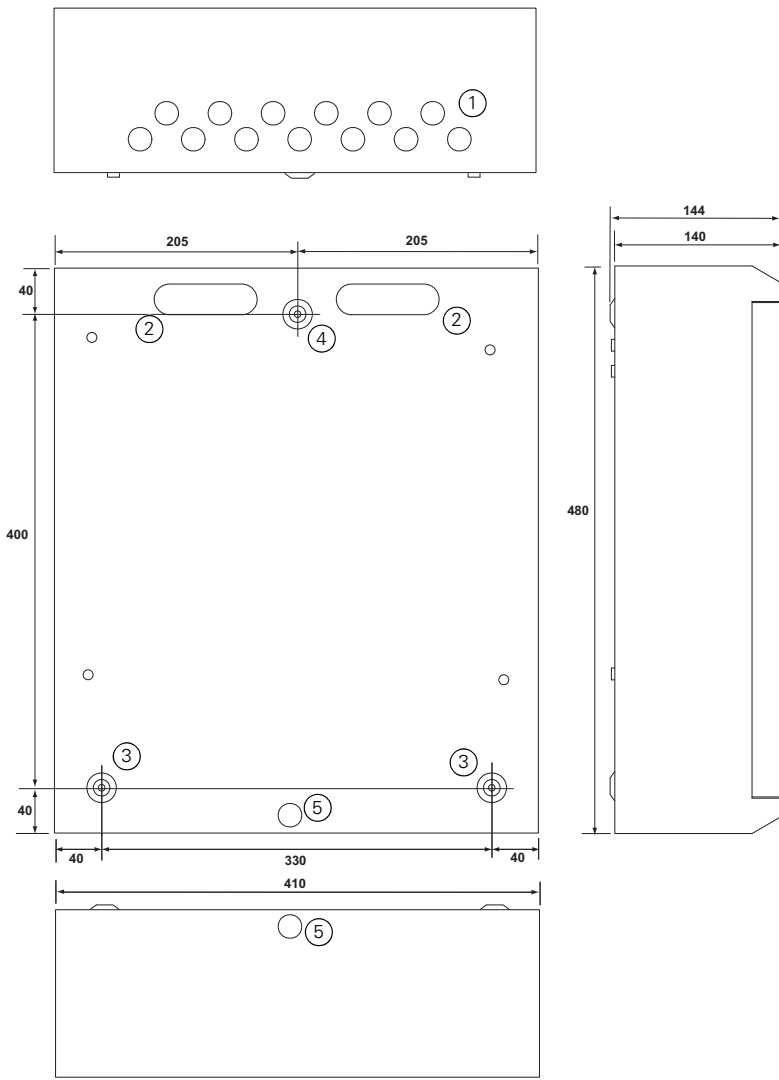
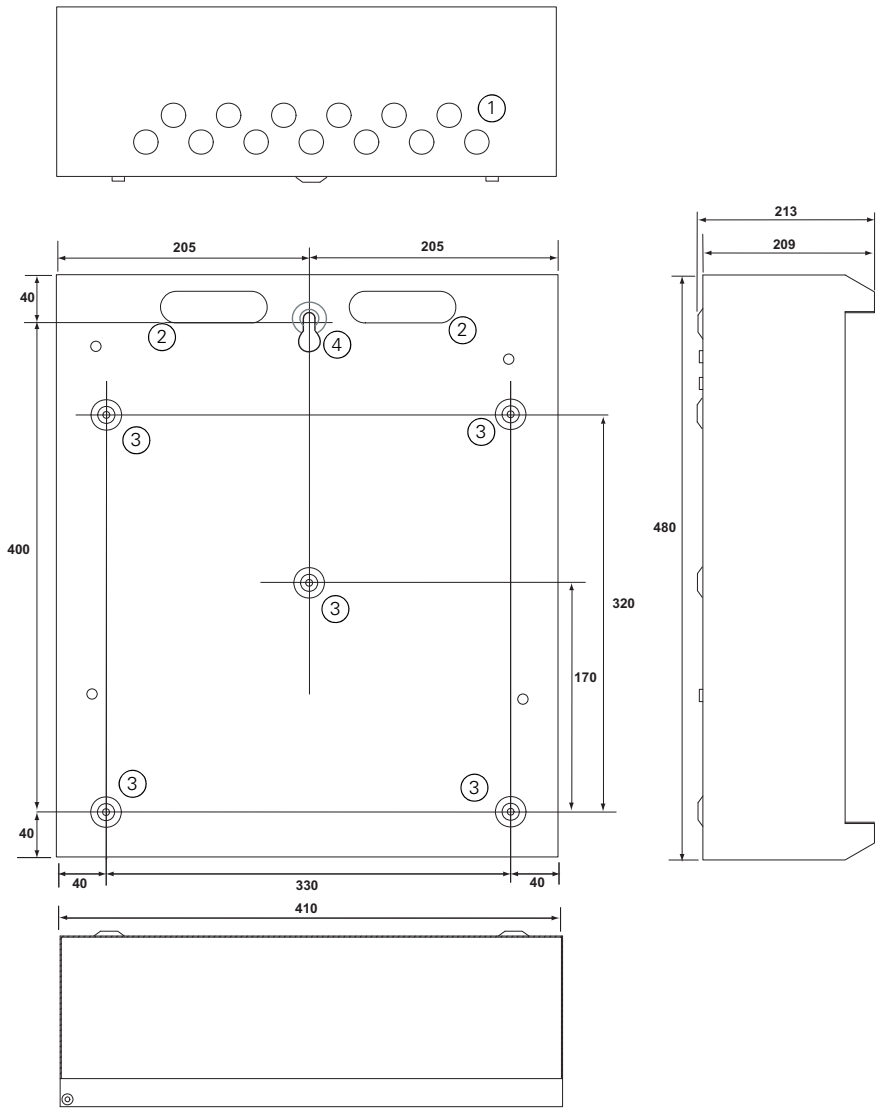

Fig. 1: Housing Overall and Fixing Dimensions - PSU A17
Fig. 2: Housing Overall and Fixing Dimensions - PSU A38
Although the PSU unit mounting position should already have been determined, as a double check, you can check the dimensions shown in Figure 1 and Figure 2.
For the upper (centre) mounting hole, mark on the wall the drill hole position. This mounting hole is item 4 in Fig 1 on page 4. Now drill and plug this hole.